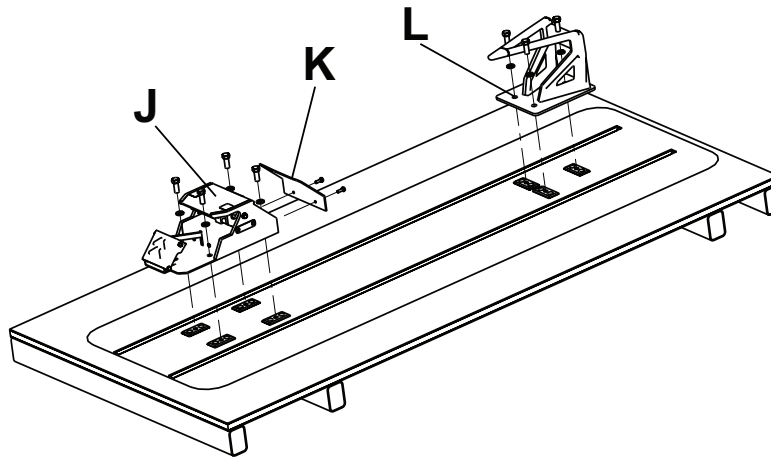

Figure 5 – Head end and foot end fastener - floor plate installation
1. Remove the back cover (K) on the foot end fastener (J).
2. Mount the foot end fastener on the four floor plates and secure with 1/2"-13 hex head cap screws and lock washers (Figure 5).
4. Mount the head end fastener (L) on the three floor plates and secure with three 1/2"-13 hex head cap screws and lock washers (Figure 5).
10. Repeat steps 5-7 to install the head end fastener on the floor track (Figure 5).